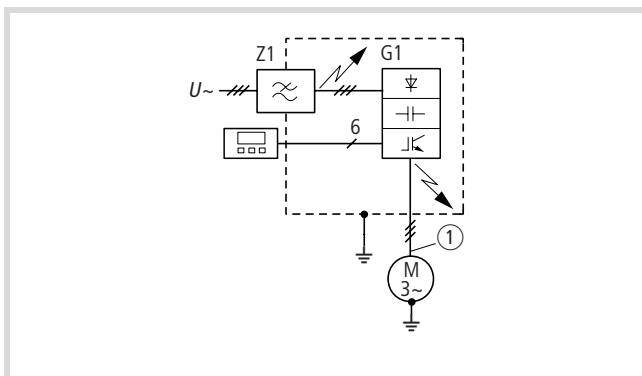

Figure 9: DF5 and radio interference filter in a sealed enclosure
① Screened motor cable
- Ground the metallic enclosure via a cable which should be as short as possible (→ Fig. 9).